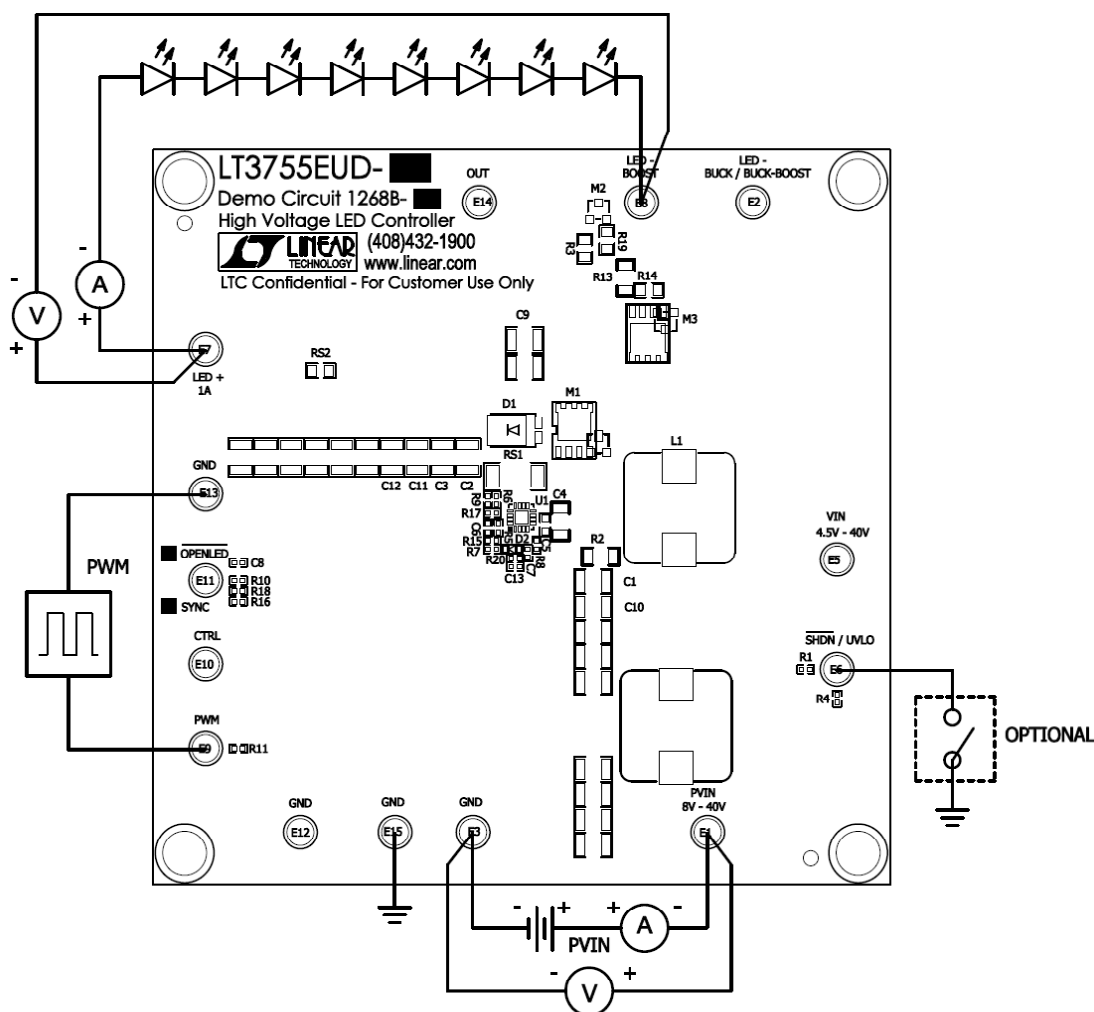

Figure 1. Test procedure setup drawing for DC1268B-A and DC1268B-B
1. Connect a string of LEDs with forward voltage less than 54V, but greater than the PVIN voltage, to the LED+ and LED- (Boost) terminals on the PCB as shown in Figure 1.